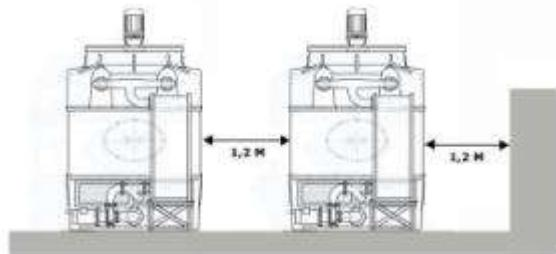

Fig. 28
- d) Due to reasons of operation and maintenance, a distance of, at least, 1,2 meters must be kept between the tower and the nearby walls or between two towers (Figure 28).